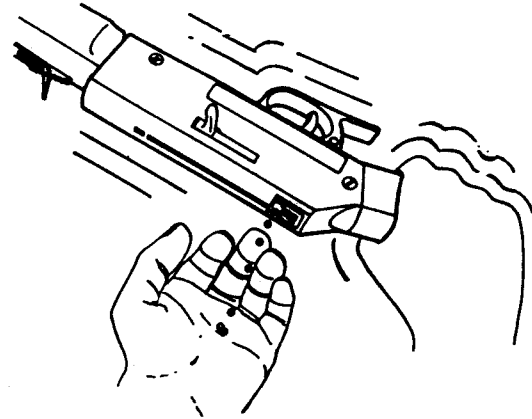

FIG. 5
- Tilt the rifle up and turn it over. Shake the BB's from the magazine into your hand. (Fig. 5)